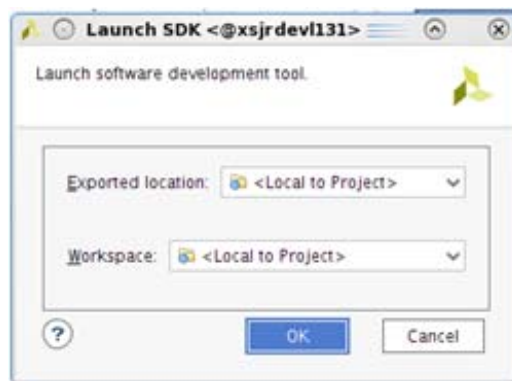

Figure 5-12: Launch SDK
13. Click **File > Launch SDK**. Choose the SDK Workspace location. Keep the exported location default configuration (**<Local to Project>**) (Figure 5-12).